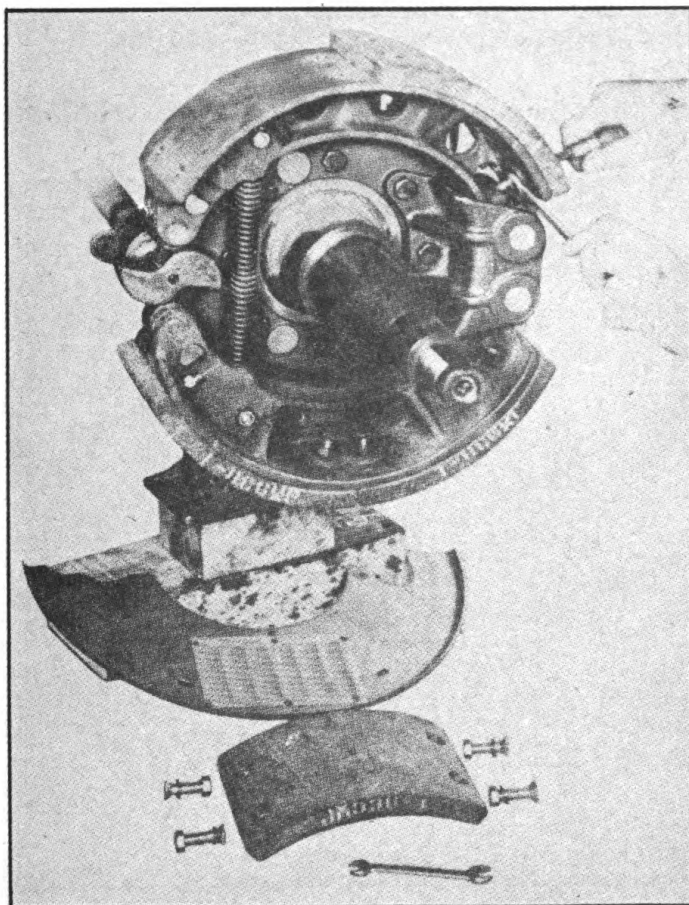

FIGURE 18. RELINING BRAKES
(1) Remove wheel, hub and drum as an assembly when relining the brakes on the outer wheels. (See instructions for removing hub assembly in Wheels, Hubs and Bearings section.)
(2) In order to reline brakes on inner wheels it will be necessary to remove the tires, wheel assembly, and then the hub.
(3) Remove dust shields.
(4) Remove bolts holding brake block to shoes (Figures 18).
(5) Loosen the anchor pin nuts and lock nuts holding anchor pins.
(6) Move anchor pins to check ease of operation.
(8) Remove all rust and dirt from brake shoes, using a putty knife or an old file.
(9) Place brake blocks on shoes and tighten, using bolts and lock-washers.
(11) Place a film of grease over S-cam and install wheel and hub assembly.
(12) Give brake a major adjustment. (Paragraph 5, this section.)